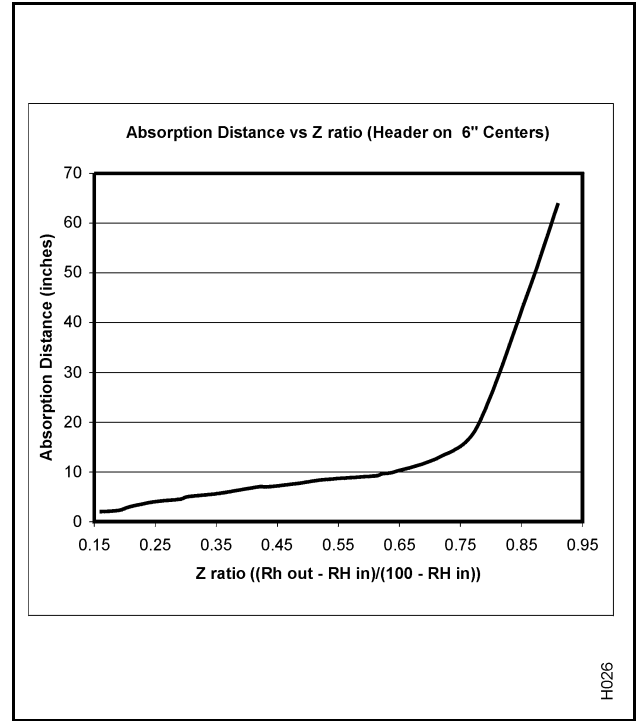
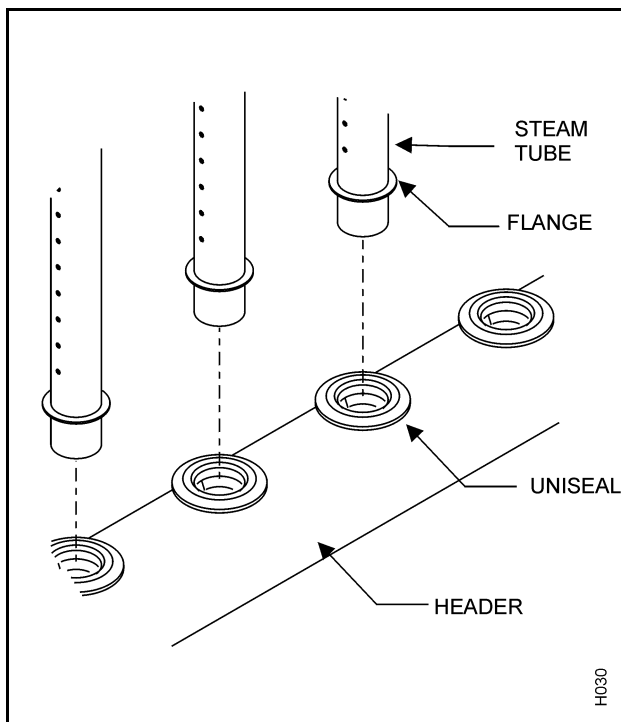

Figure 20. Absorption Distance – 6\" Centers
Figure 24. SAM-e Tubes
- (1) Constructed of 1.5" (3.81 cm) OD 304 stainless steel tubing, the steam tubes can accommodate duct heights between 18" (45.72 cm) - 144" (365.76 cm) for in-duct header mounting. For smaller duct applications, a mini SAM-e can accommodate sizes starting at 12" (30.5 cm) wide x 8" (20.3 cm) high. (See Figure 20.) Each steam tube has a different amount of stainless steel nozzles to evenly disperse steam into the duct or air handling unit. The nozzles take the steam from the center of the tube, eliminating any need for jacket heating, and a temperature switch. All the accumulating condensate is drained vertically down to the main header, and then out the condensate drain. NORTEC's unique 'slip in' installation method makes for a very quick and effortless assembly. (See Figure 24.)
- (2) There is a selection of four types of steam tubes. Each are capable of distributing different capacities. To select the steam tube for your application refer to Table 17.